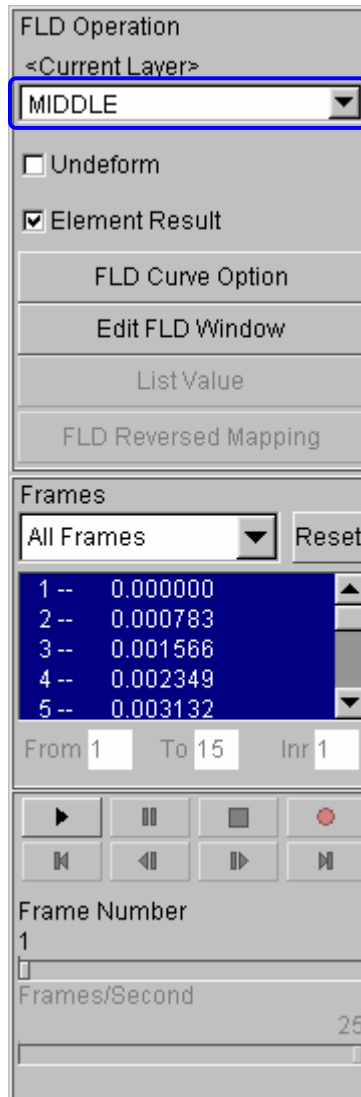
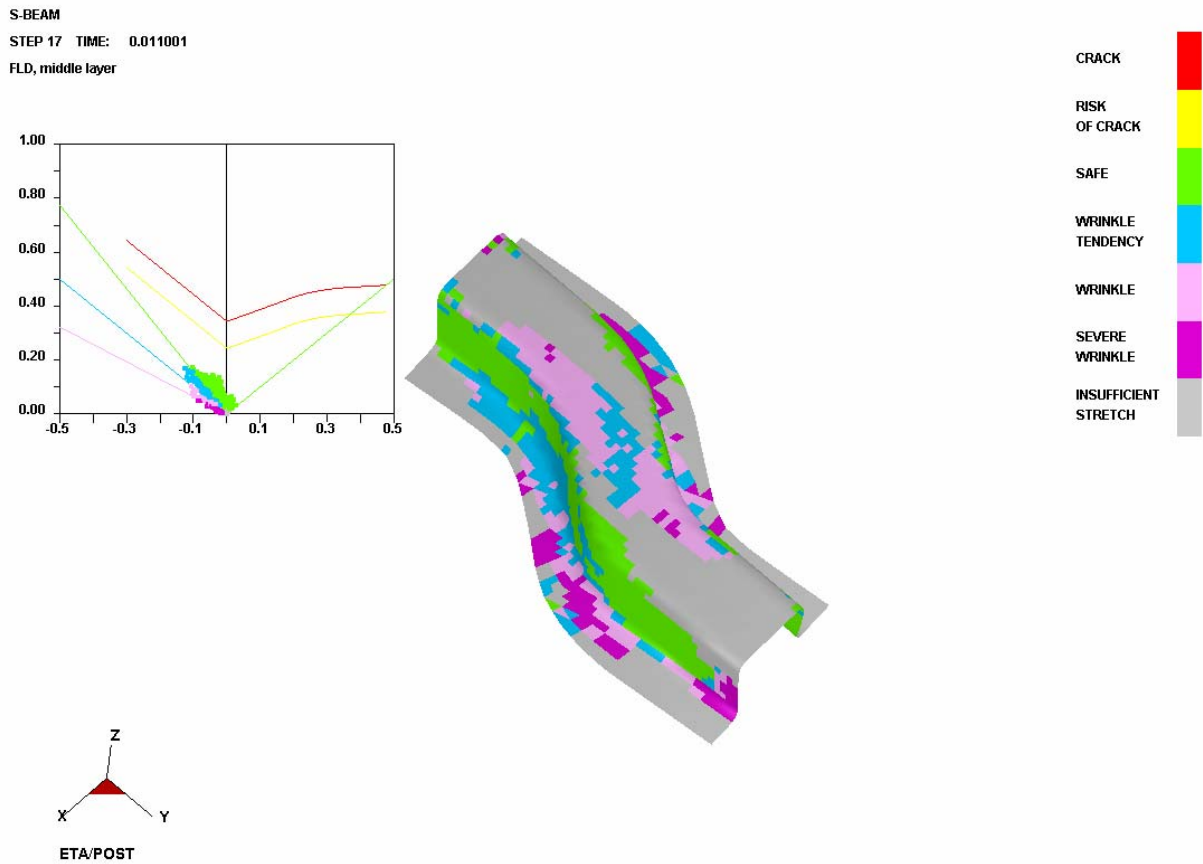

Figure 155: FLD display dialog box
Figure 156: FLD contour
2. Select **Middle** from the **Current Component** list, as illustrated in Figure 155. The FLD contour of deformed dome is illustrated in Figure 156.